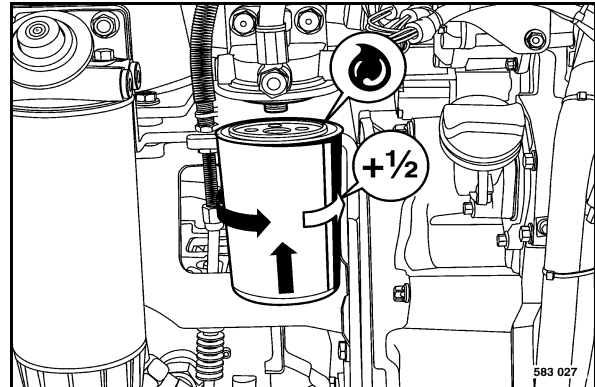

Fig. 158
- Slightly oil the rubber seal (Fig. 158) on the new filter cartridge.